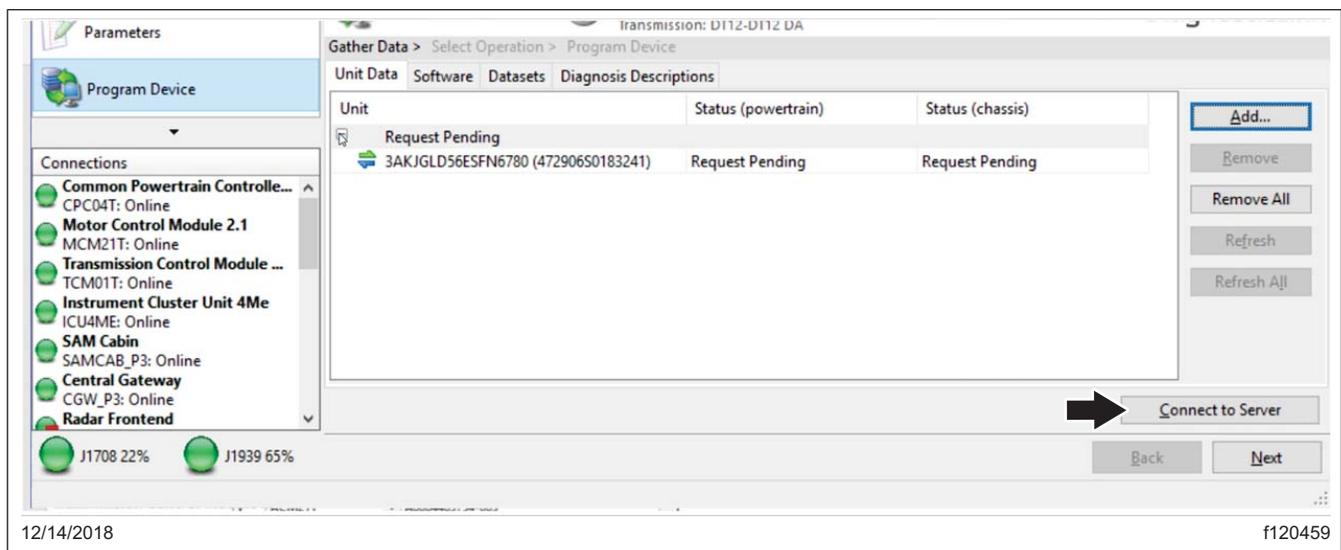

Fig. 7, Downloading Updated Unit Data
- There should be a request pending status for the VIN. Click "connect to server" to download the updated unit data. See Fig. 7. The server will provide any new software available on the server as well as updated parameter sets for the new software, adjusted for the parameter set that was just uploaded from the vehicle.